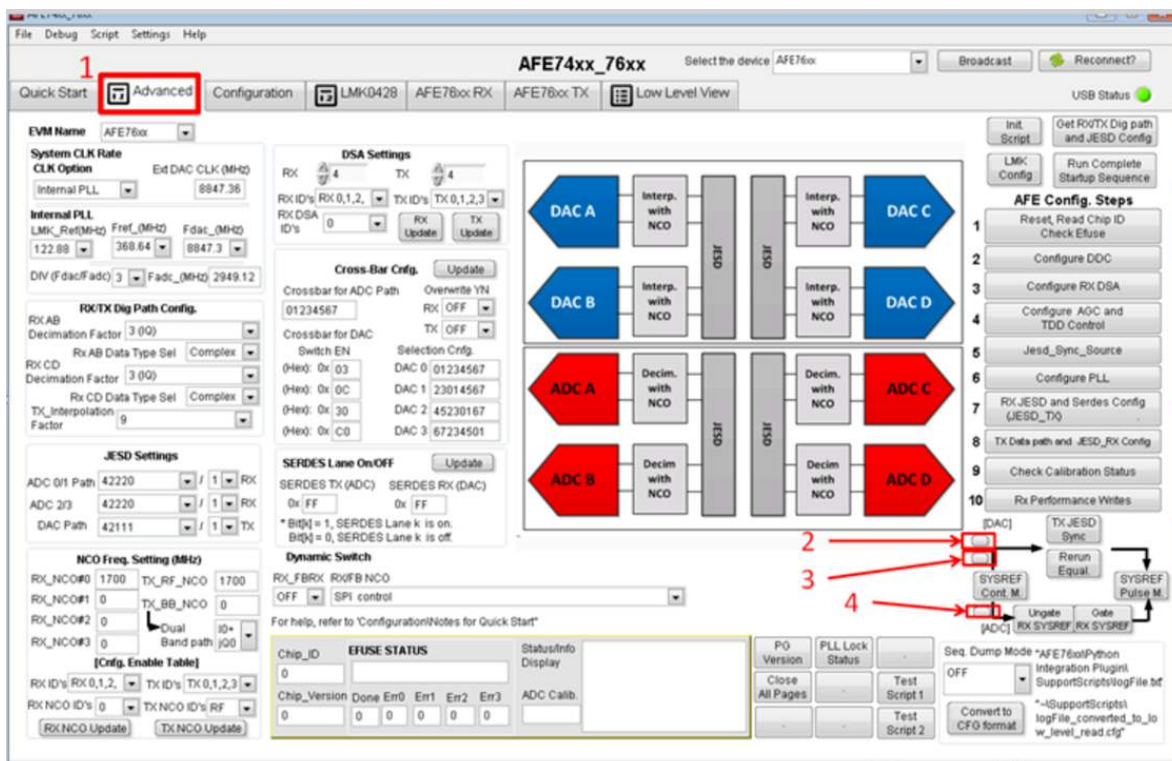

Figure 20. Troubleshooting the AFE74xxEVM DAC
2. If Step 1 does not work, navigate to the advanced panel in the GUI labeled 1 in Figure 20. Click the buttons labeled 2, 3, and 4 in that order. These buttons manually force a handshake of the JESD204B204B links. Check to see if the tones are now visible on the spectrum analyzer.